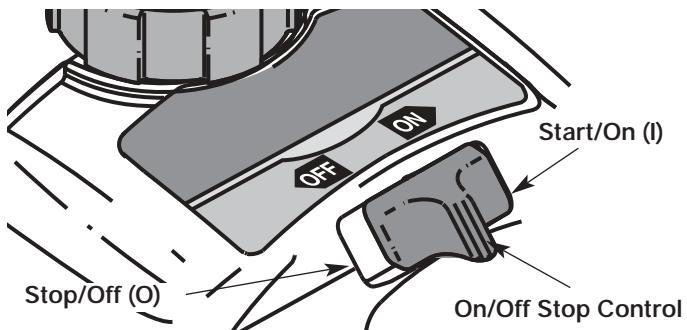
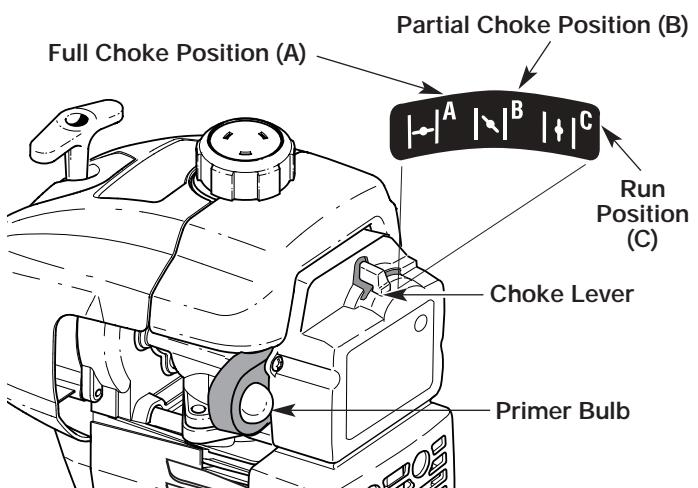

Figure 6
Figure 7
2. Put the On/Off Stop Control in the **ON (I)** position. See Figure 6.
3. Fully press and release the primer bulb 10 times, slowly, until **FUEL IS VISIBLE IN THE PRIMER BULB**. See Figure 7. If you can't see fuel in the bulb, press and release the bulb as many times as it takes before you can see fuel in it.
4. Place the choke lever in the **FULL** choke (A $\text{---}|\text{---}$) position. See Figure 7.
6. Place the choke lever in the **PARTIAL** choke (B $\text{---}|\text{---}|\text{---}$) position. See Figure 7.
NOTE: *If the engine floods while trying to start, place the choke lever in the **RUN** (C $\text{---}|\text{---}|\text{---}$) position. See Figure 7. Squeeze the throttle control. Pull the starter rope briskly. The engine should start within three (3) to eight (8) pulls.*
9. Squeeze the throttle control to warm up the engine for 5 to 10 seconds. Place the choke lever in the **RUN** (C $\text{---}|\text{---}|\text{---}$) position. See Figure 7.
NOTE: *Choking is unnecessary when starting a warm engine. Put the On/Off Stop Control in the **ON** position (Figure 6), and start in **PARTIAL** choke (B $\text{---}|\text{---}|\text{---}$) position (Figure 7). After starting, place the choke lever in the **RUN** (C $\text{---}|\text{---}|\text{---}$) position.*
2. Put the On/Off Stop Control in the **OFF (O)** position. See Figure 6.